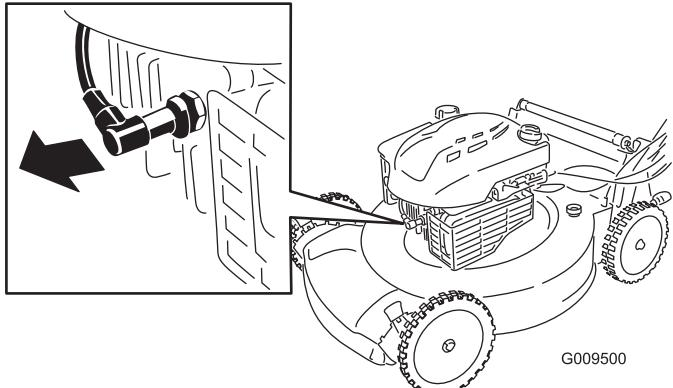

Figure 23
- Disconnect the spark-plug wire from the spark plug (Figure 23) before performing any maintenance procedure.